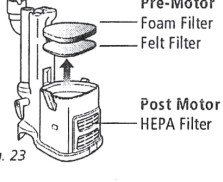

Fig. 23
- 2 Pull the 2 filters out from the top of the motor base. (Fig. 23)